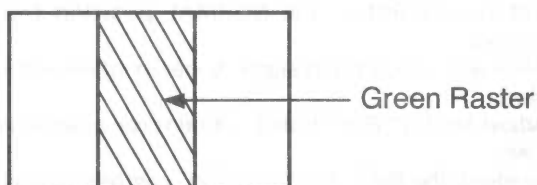

Figure 6
- 4) Turn the purity magnet so that the green raster is positioned in the center vertically. (Refer to figure 6.)